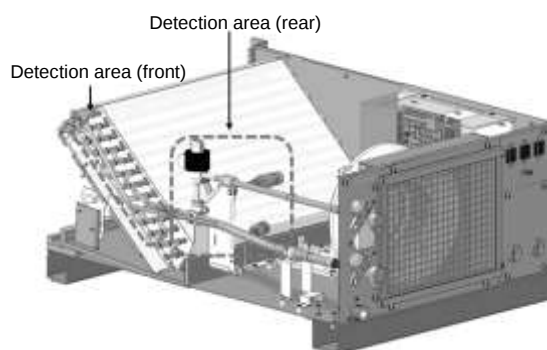

Figure 7-6 The detection area in VRC202 (rear)
3. Insert the sniffer into the VRC202 unit to check whether the refrigerant leaks in the areas in Figure 7-6. Check detection area (front) and detection area (rear) from the front and rear of the VRC202 unit, respectively.